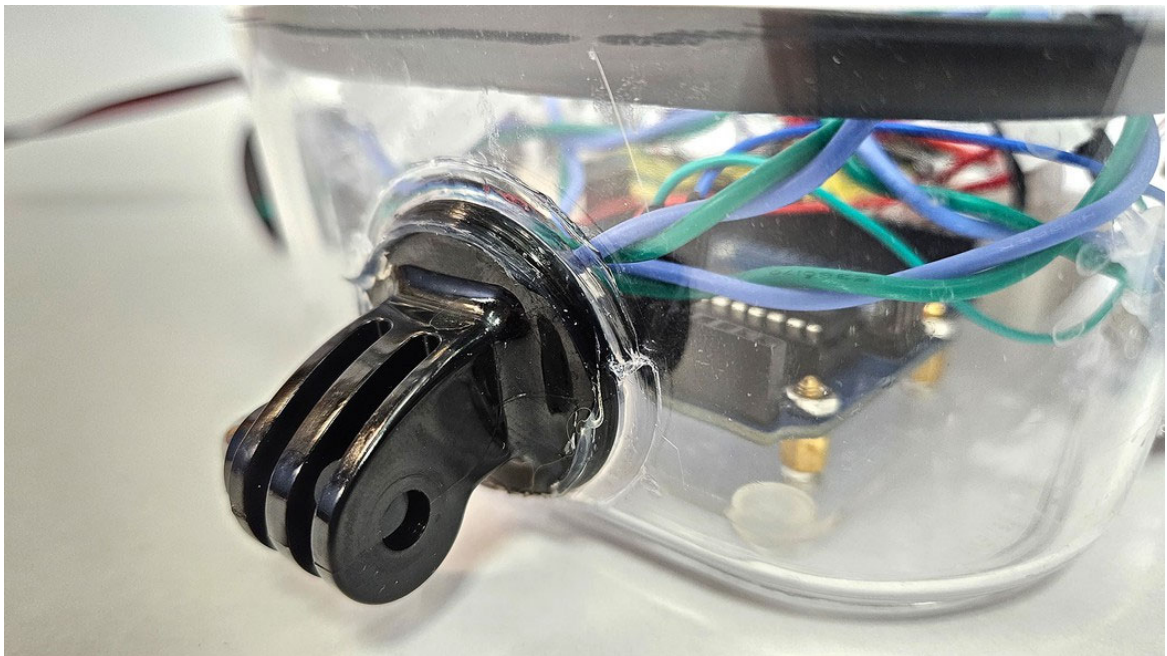

Figure 10. Silicone sealant around the edge of a camera mounting bracket.
7. After you have drilled all the required holes for mounting hardware, passing wires through, etc., follow the instructions for your silicone sealant to seal around the edges of the holes (Figure 10). Make sure you wait for the silicone to dry completely before you continue.